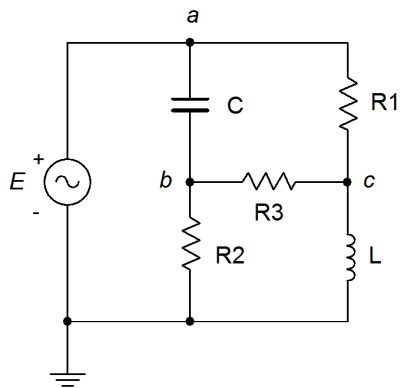

Figure 5.36
62. Find voltage v_{bc} in the circuit of Figure 5.36 through the use of one or more delta-Y conversions.